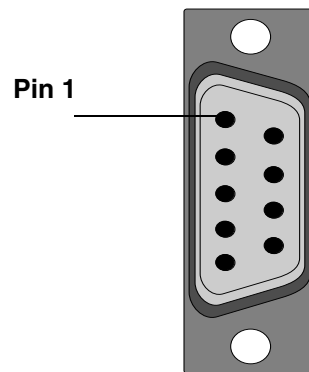

Figure 1-4 COM2 Connector (P6)
- Figure 1-4 COM2 Connector (P6) 16
The ACC-0603RC provides a 16550 compatible serial port. The serial port has an independent 16-bit FIFO supporting baud rates up to 115 Kbaud. The serial port is available via a standard DB9 connector and is hardware-configurable to be either RS232 or RS422. The diagram for the DB9 connector used for COM2 (serial port) is shown in the Figure 1-4. Table 1-2 shows the pinout for COM2 in both RS232 and RS422 modes.